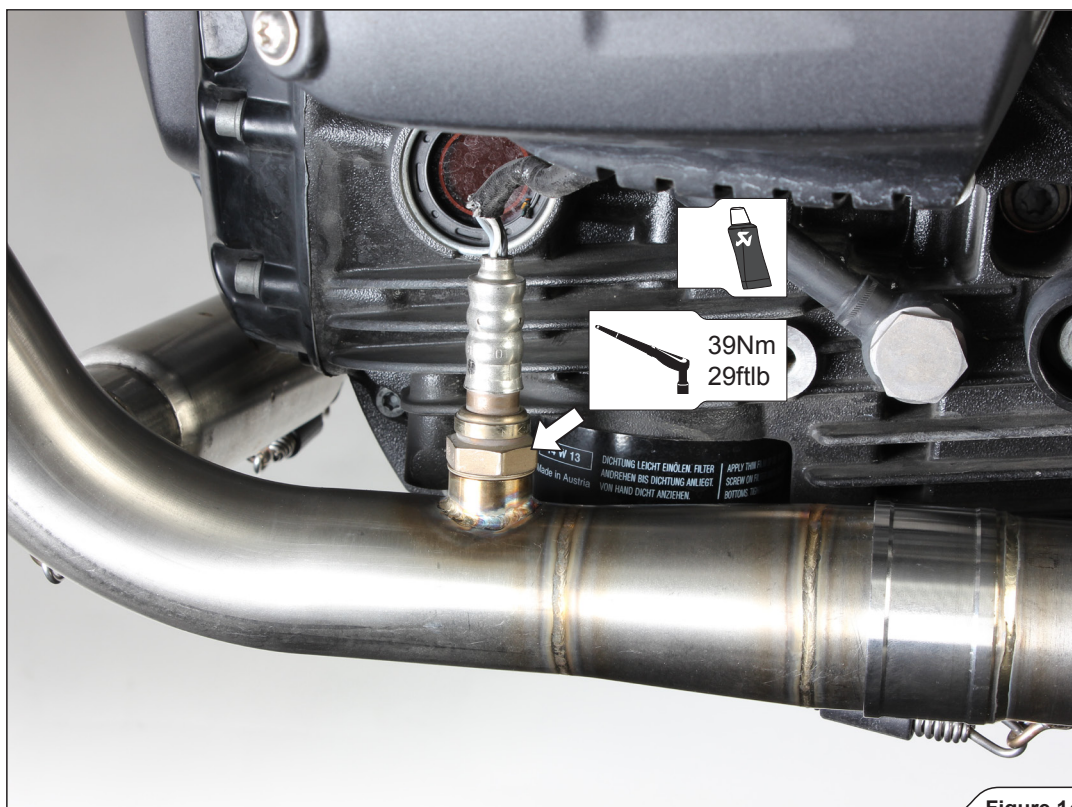

Figure 14
6. Install both lambda sensors into the headers (Figure 14).